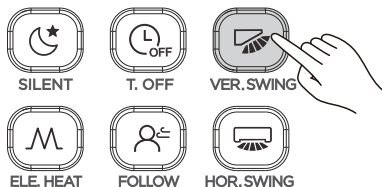

Figure 3.11
① When the unit is on. Press  (see Figure 3.11). Start the vertical swing function, and the  icon will light up, and signal is sent to the indoor unit;